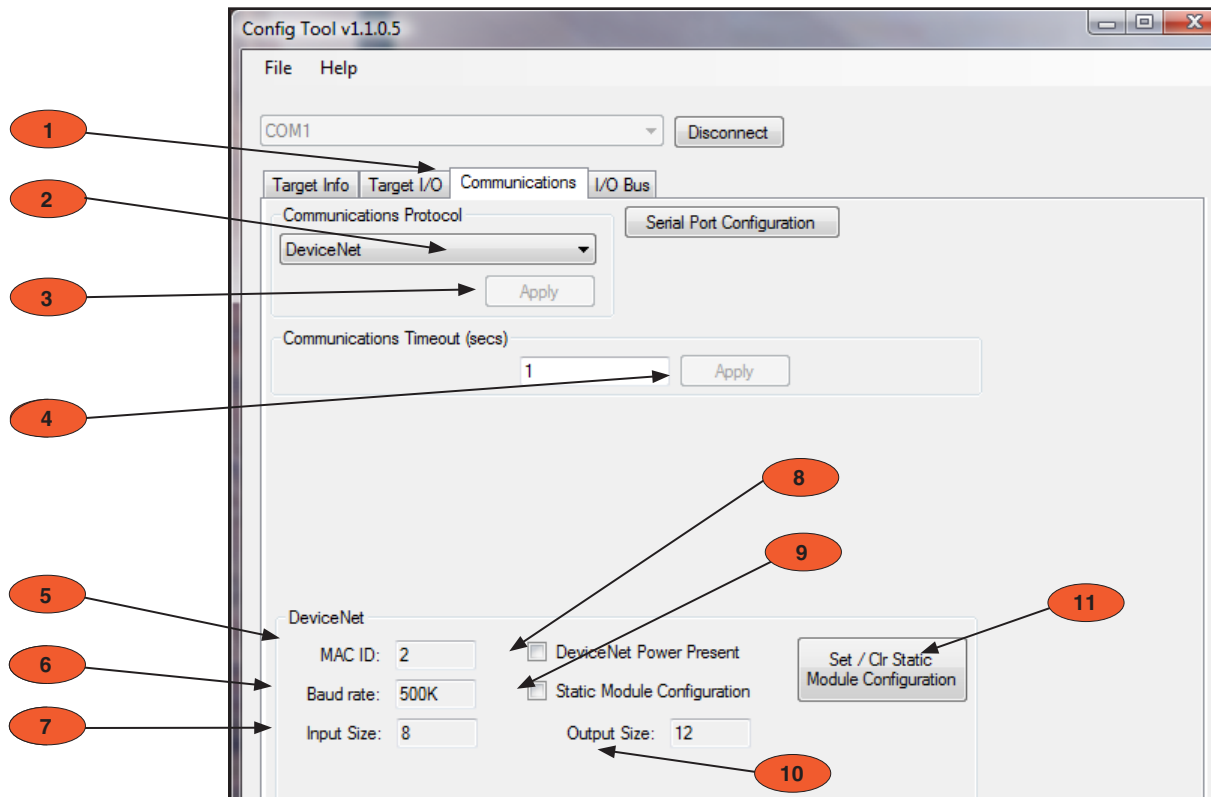

Figure 17
- B. Select *DeviceNet™* using the drop down menu. *DeviceNet™* refers to communications via the *DeviceNet™* Port Reference image below (see figure 17).